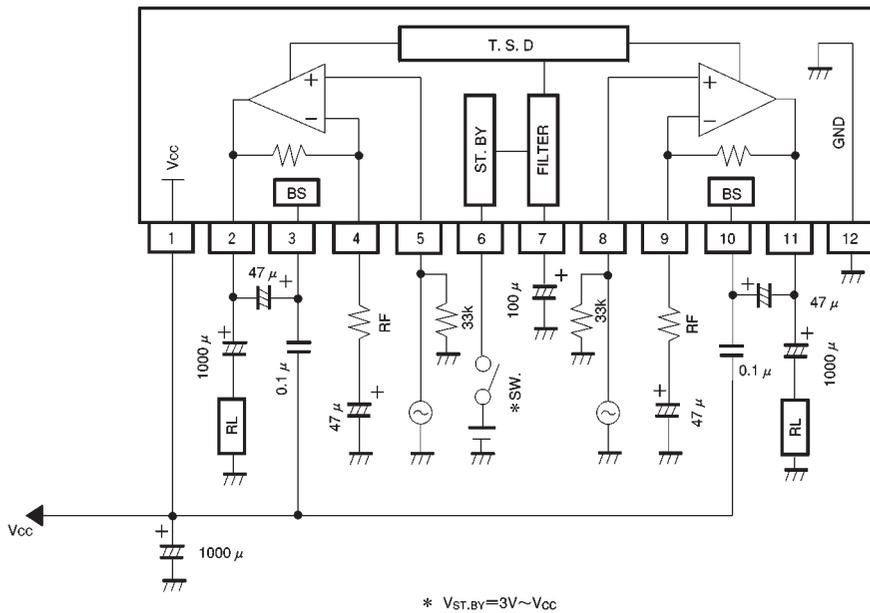

Fig.1
(10) Standard values for the DC voltages on each pin ($V_{CC} = 12V$, $T_a = 25^\circ C$, measurement circuit: Fig. 1)